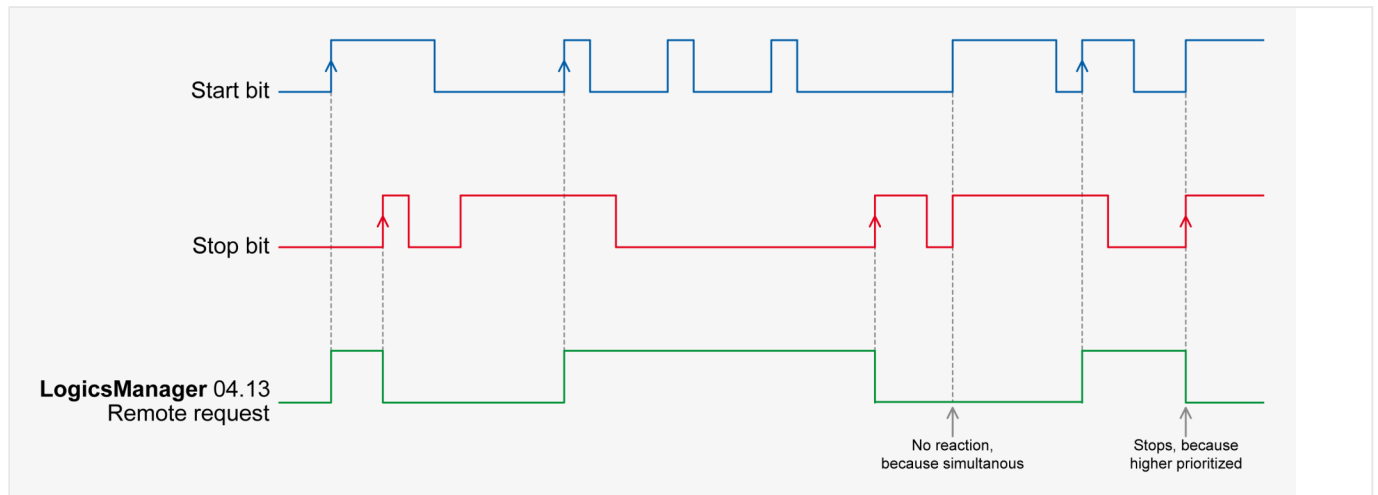

Fig. 277: Command variable
- The command variable "04.13 Remote request" changes to "0" (low) if the stop bit (ID 503, bit 1) changes from "0" to "1" (➡ Fig. 277).